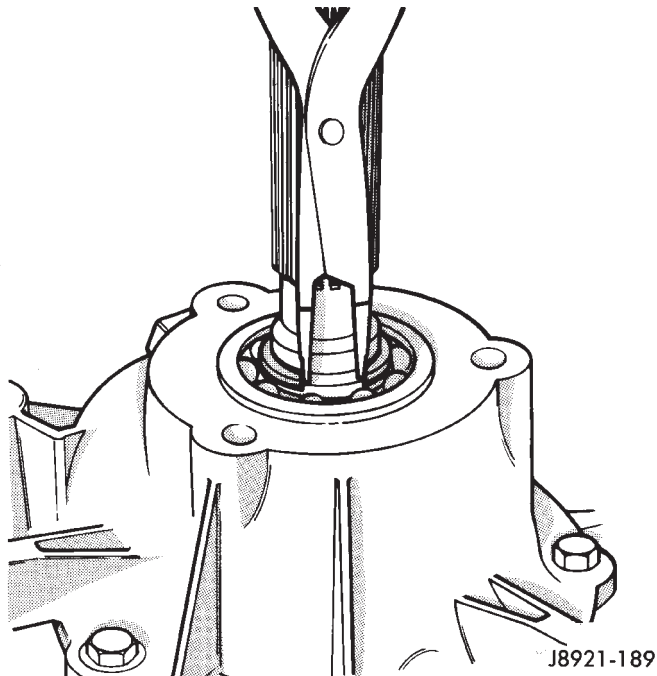

Fig. 2 Removing Rear Bearing Snap Ring
(6) Remove rear bearing snap ring from mainshaft (Fig. 2). Discard snap ring.